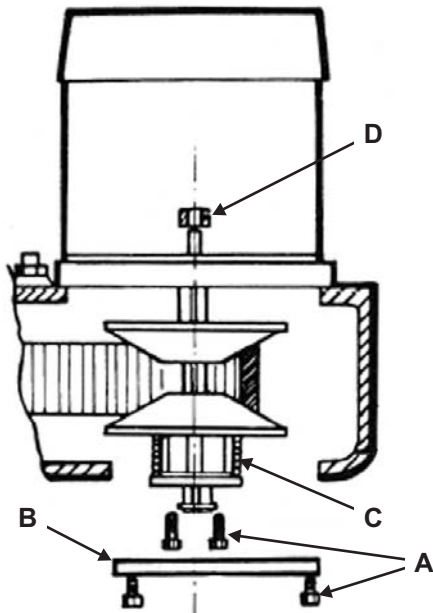

Figure 4.1 - Motor Removal:
3. Remove three screws "A" and cover "B", Figure 4.1.